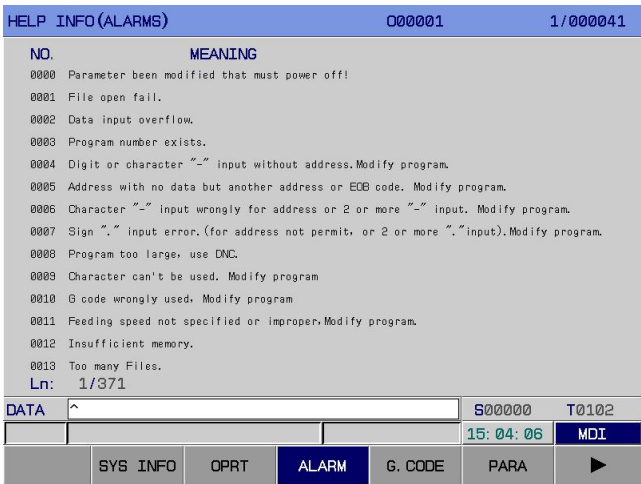

Fig.3-9-3
3. Alarm table interface: On <Help> interface, press [Alarms] to enter the help information (alarm table) interface, as shown in Fig.3-9-3: